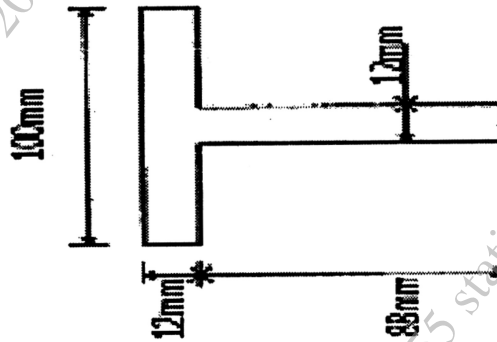

Fig. 5
4. (a) A steel section, as shown, in Fig.5 is subjected to a shear force of 15 kN. Determine the shear stress at key points and sketch the shear stress distribution diagram [6M]